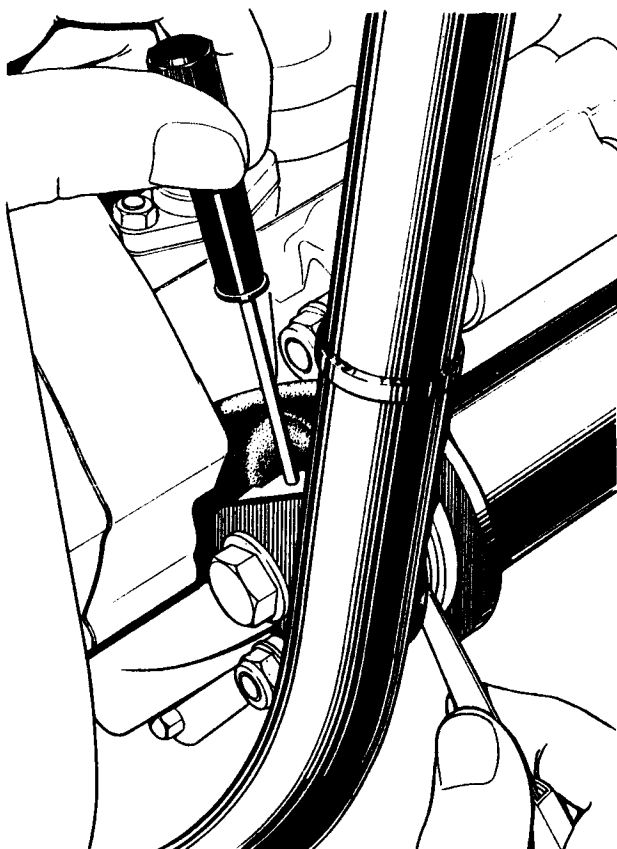

Fig. F20 Checking front mounting clearance
- 2 Push or lever the engine to the right until all slack in the Isolastic mounting has been taken up. Holding the engine unit in this position, use feeler gauges to measure the clearance between the plastic washer and bright plated adjuster collar. (See *Fig. F20*).